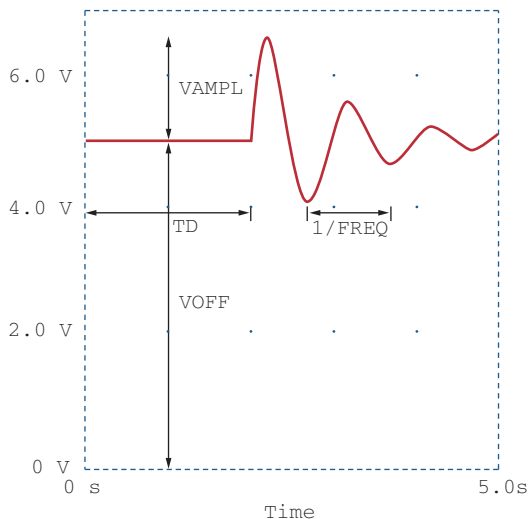

Figure 25
The VSIN source has the following attributes, which are illustrated in Fig. 25 and compared with Eq. (1):